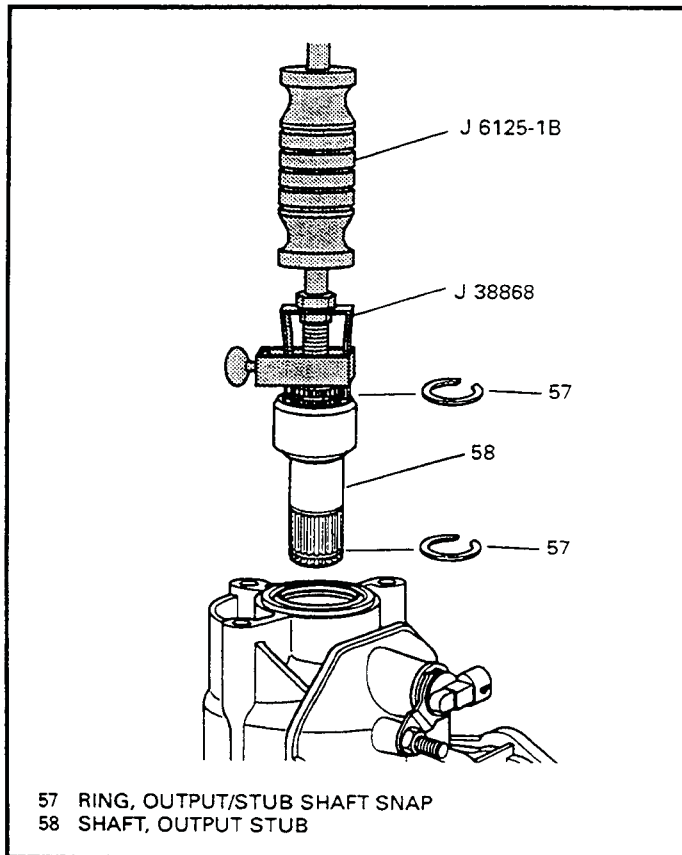

Figure 46
8. Remove and discard the snap ring (57) from the end of the stub shaft (See Figure 46). Snap ring *is not* reusable.
13. Pull the stub shaft out using the slide hammer impact as shown in Figure 46.